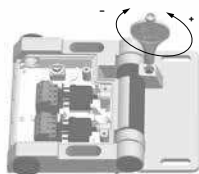

Fig. 6
5. Use the adjustment tool to set the NC contacts so that their opening is ensured at the maximum authorised safety guard opening angle. Turn clockwise to decrease the switching angle, turn counterclockwise to increase the switching angle (Fig. 6); when mounted inside accordingly reversed. The positive break angle is 7° larger than the set switching angle.